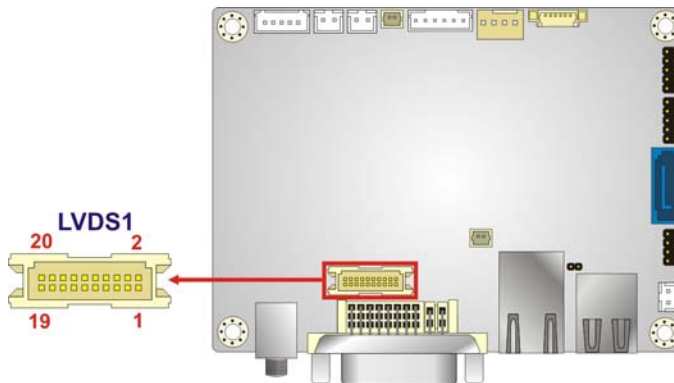

Figure 3-11: LVDS Connector Location
- CN Location: See **Figure 3-11**